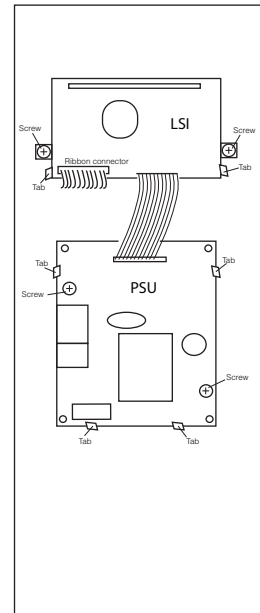

Figure 3. PWB Removal
2. Remove 4 screws shown in **Fig 3**.
4. Release tabs from PSU (4) and LSI (2) and lift each off.